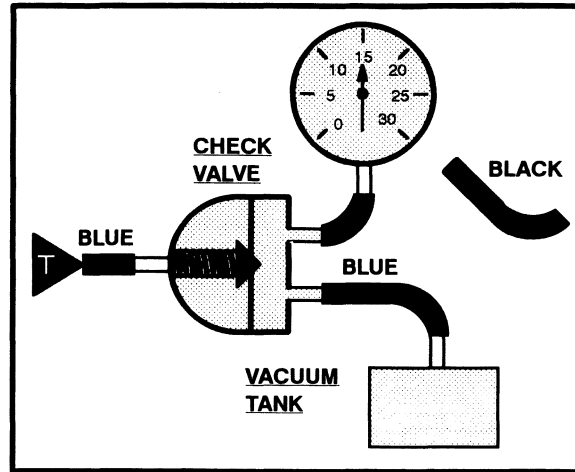

Figure 1 - System Supply Test
- Connect Vacuum Tester to system side of Check Valve (Figure 1).